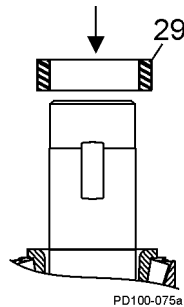

Figure 55 - Install Rear Seal
1. Install the gear spacer on the drive shaft (Figure 55, item 29).